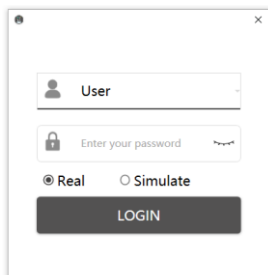

Figure 1 Login Interface
- 1) Double-click the icon of MGISP-NE384 on the desktop, the mode selection interface is displayed, as shown in following figure1. Select **"User"** and input the password **"123456"**, click **"LOGIN"**.